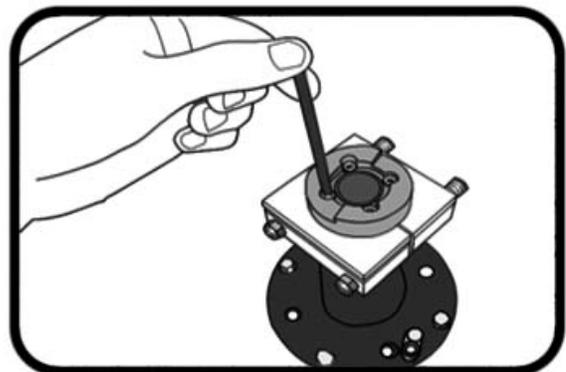

Fig. 9
**Step 8:** Use an allen wrench to remove the single dog gear from the end-casting. **(Fig. 9)**